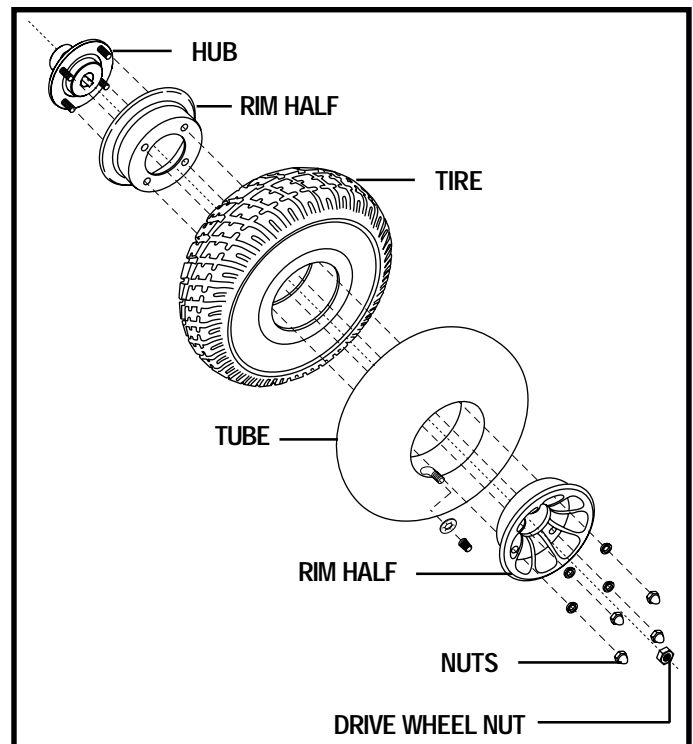

Figure 35. Wheel Assembly
6. Remove the nuts that fasten the two rim halves together. See figure 35.